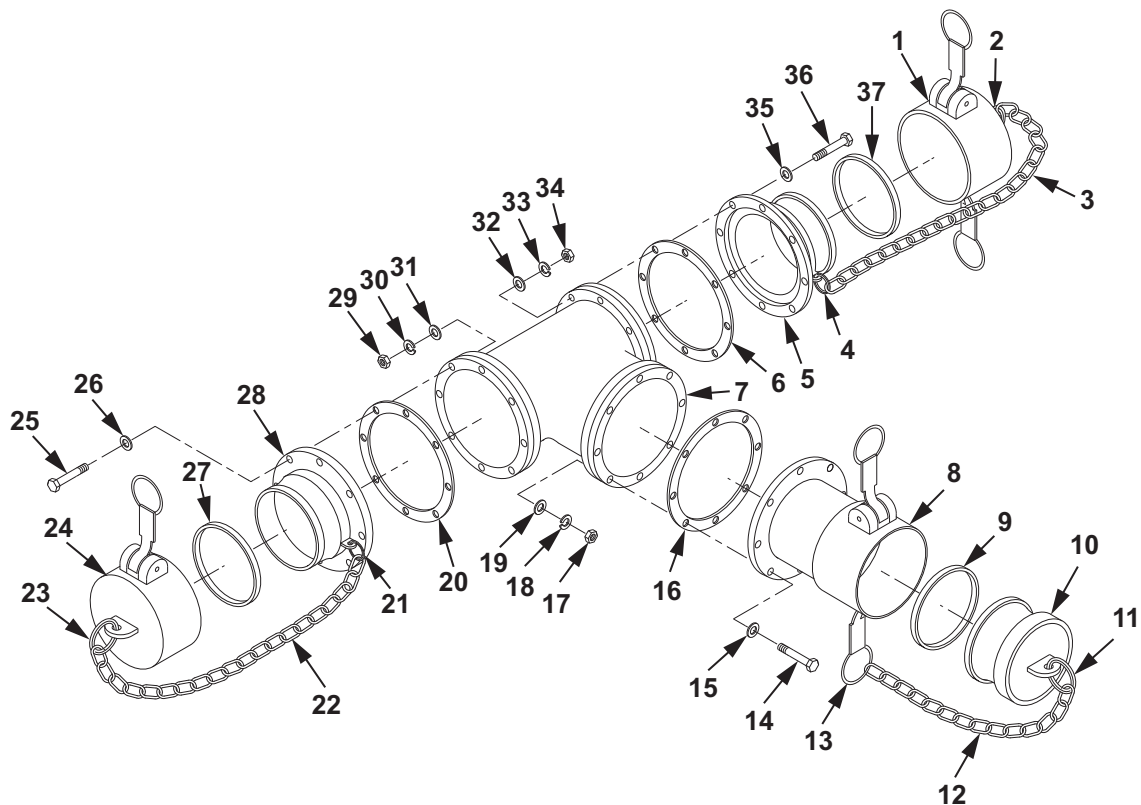

Figure 2. 4 In. Male X 4 In. Male X 4 In. Female Tee Assembly.
5. Install split ring (Figure 2, Item 13) on chain (Figure 2, Item 12).
6. Install split ring (Figure 2, Item 13) on coupling (Figure 2, Item 8).
7. Install split ring (Figure 2, Item 11) on chain (Figure 2, Item 12).
8. Install split ring (Figure 2, Item 11) on quick disconnect dust plug (Figure 2, Item 10).
9. Install split ring (Figure 2, Item 4) on chain (Figure 2, Item 3).
10. Install split ring (Figure 2, Item 4) on coupling (Figure 2, Item 5).
11. Install split ring (Figure 2, Item 2) on chain (Figure 2, Item 3).
12. Install split ring (Figure 2, Item 2) on quick disconnect dust cap (Figure 2, Item 1).
13. Install eight screws (Figure 2, Item 26) and washers (Figure 2, Item 27) through coupling (Figure 2, Item 9), new gasket (Figure 2, Item 28) and tee (Figure 2, Item 16).
14. Install eight washers (Figure 2, Item 31), new lockwashers (Figure 2, Item 30) and nuts (Figure 2, Item 29) on screws (Figure 2, Item 25). Hand tighten eight nuts (Figure 2, Item 29).
15. Using torque wrench and adapter, torque eight nuts (Figure 2, Item 29) to 37–43 ft lb (50–58 N·m).
16. Install eight screws (Figure 2, Item 14) and washers (Figure 2, Item 15) through coupling (Figure 2, Item 8), new gasket (Figure 2, Item 16) and tee (Figure 2, Item 7).
17. Install eight washers (Figure 2, Item 19), new lockwashers (Figure 2, Item 18) and nuts (Figure 2, Item 17) on screws (Figure 2, Item 14). Hand tighten eight nuts (Figure 2, Item 17).
18. Using torque wrench and adapter, torque eight nuts (Figure 2, Item 17) to 37–43 ft lb (50–58 N·m).
19. Install eight screws (Figure 2, Item 13) and washers (Figure 2, Item 35) through coupling (Figure 2, Item 5), new gasket (Figure 2, Item 6) and tee (Figure 2, Item 7).
20. Install eight washers (Figure 2, Item 32), new lockwashers (Figure 2, Item 33) and nuts (Figure 2, Item 34) on screws (Figure 2, Item 36). Hand tighten eight nuts (Figure 2, Item 34).
21. Using torque wrench and adapter, torque eight nuts (Figure 2, Item 34) to 37–43 ft lb (50–58 N·m).
22. Install new gasket (Figure 2, Item 27) and quick disconnect dust cap (Figure 2, Item 24) into coupling (Figure 2, Item 28).
23. Install new gasket (Figure 2, Item 9) and quick disconnect dust plug (Figure 2, Item 10) into coupling (Figure 1, Item 8).
24. Install new gasket (Figure 2, Item 37) and quick disconnect dust cap (Figure 2, Item 1) onto coupling (Figure 2, Item 5).